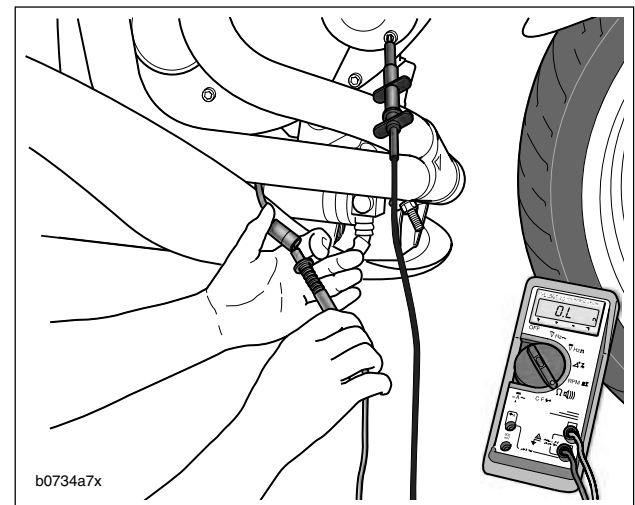

Figure 7-20. Test for Grounded Stator
2. See Figure 7-20. Connect an ohmmeter.